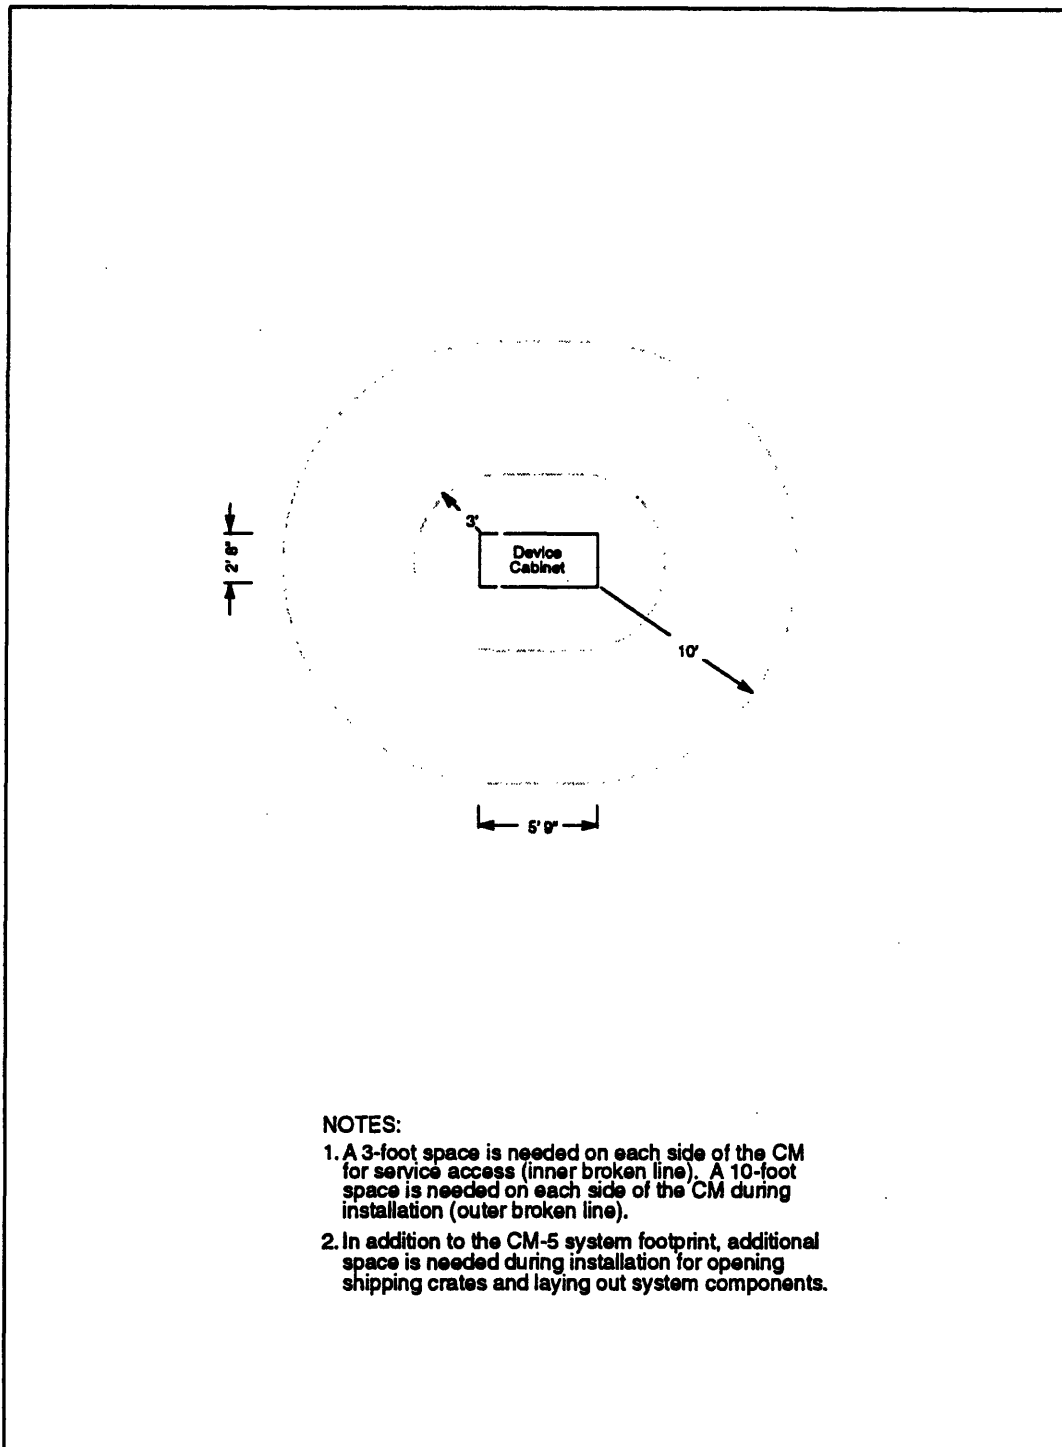

Figure 6. Minimum space requirement for one CM-5 cabinet
- Verify that the computer room has sufficient space. Refer to Figure 6 through Figure 16 for details of floor space requirements.